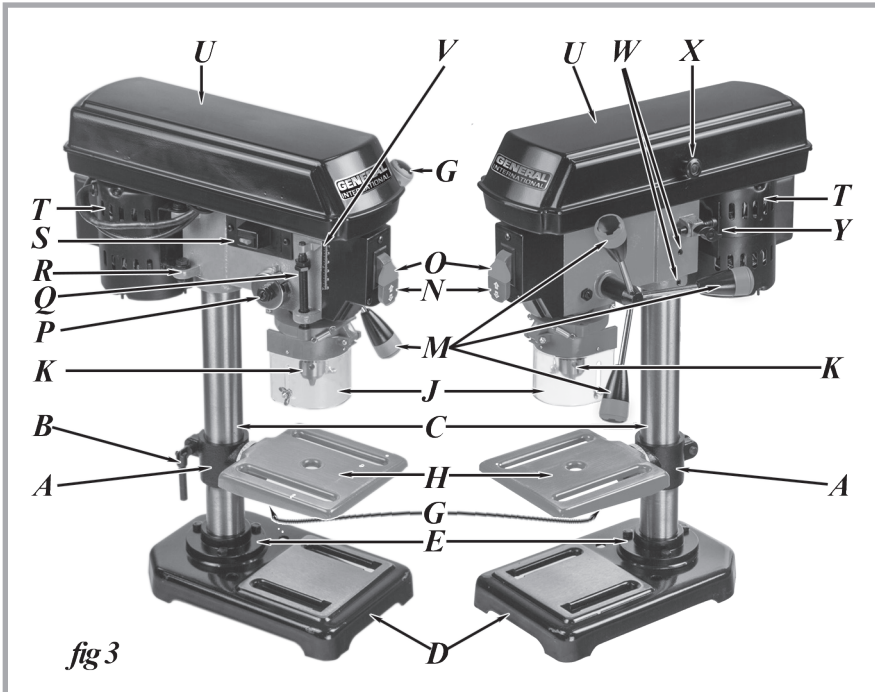

fig 3
6. Using a 4 mm hex (Allen) key, fasten the head assembly in place by tightening the head lock set screws (W, fig 3) in the right side of the head casting.
12. Install an M5 x 12 pan head screw from the inside of the pulley cover through the hole and attach the knob (X, fig 3) to the outside.
1. Locate the laser switch (S, fig 3) on the left side of the head assembly.
2. To move the belt, loosen the belt tension lock knob (Y, fig 3) on the right side of the head assembly, and let the motor pivot forward so that it reduces the distance between the drive (motor) pulley and the spindle pulley.
6. Insert the drill bit into the chuck (K, fig 3) far enough to obtain maximum grip from the chuck jaws. Make sure the drill bit is centered in the chuck.
11. The drilling depth may be controlled by watching the indicator and depth scale (V fig 3), on the left side of the drill press head, or it can be regulated quite precisely by setting the depth stop nuts on the depth stop rod (Q, fig 3).
14. Turn the laser switch to the on (I) position.
- Using a hex wrench, turn the laser adjustment hex screws (3) counterclockwise.